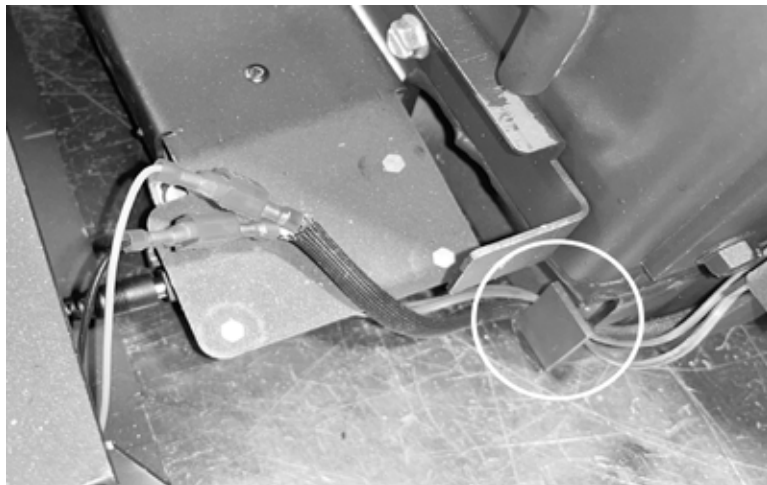

Figure 7: Route wires.
7. Route the wires from the power supply and the thermocouples down behind the tab on the casing bottom on the unit and up above the Intake & Control assembly. Figure 7
8. Re-install the Blower assembly, being careful to not pinch the wires. Figure 7